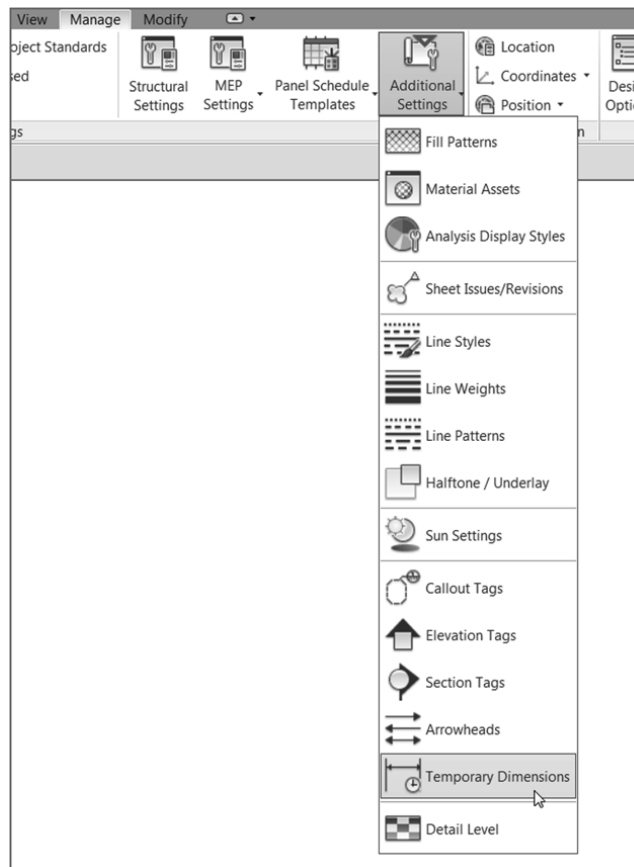

FIGURE 2.67: Select Additional Settings > Temporary Dimensions.
- a. On the Settings panel of the Manage tab, click Additional Settings > Temporary Dimensions, as shown in Figure 2.67.